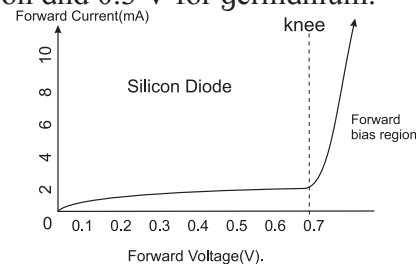

Fig. 14.24: I-V characteristic of a forward biased diode.
Figure 14.24 shows the I-V characteristic of a forward biased diode. Initially, the current is very low and then there is a sudden rise in the current. The point at which current rises sharply is shown as the 'knee' point on the I-V characteristic curve. The corresponding voltage is called the 'knee voltage'. It is about 0.7 V for silicon and 0.3 V for germanium.
The I-V characteristics of a forward biased diode (Fig. 14.24) is used to define two of its resistances i) the static (DC) resistance and ii) the dynamic (AC) resistance.
**i) Static (DC) resistance:** When a p-n junction diode is forward biased, it offers a definite resistance in the circuit. This resistance is called the static or DC resistance ( $R_g$ ) of a diode. The DC resistance of a diode is the ratio of the DC voltage across the diode to the DC current flowing through it at a particular voltage.